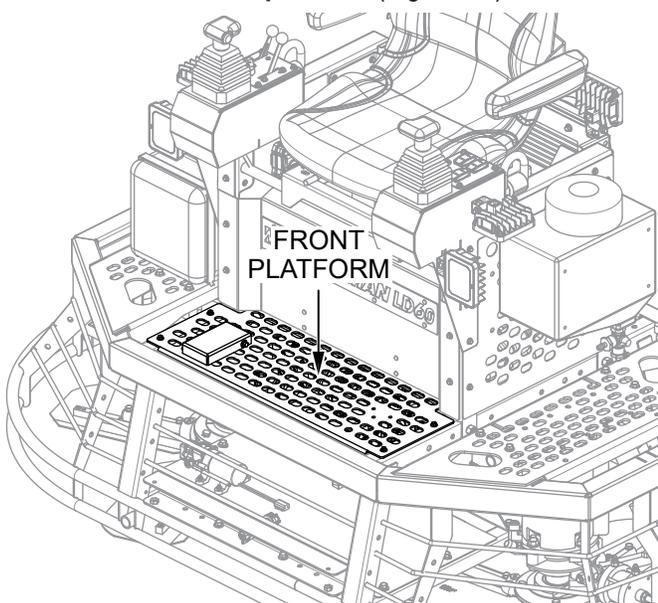

Figure 46. Remove Front Platform
2. Remove the **front platform** (Figure 46).